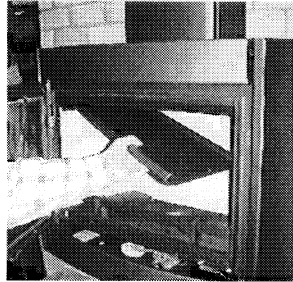

Fig 6
- The heat plate should be fitted through the door opening into the onner fire chamber, using the connection pieces provided for this purpose.(fig 6)